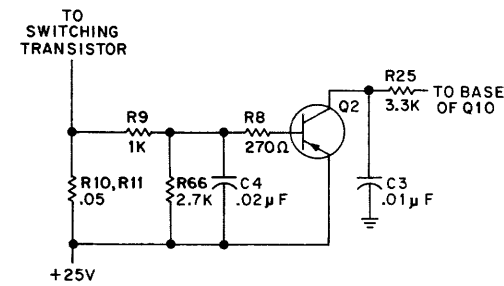

Figure 2-8 Overcurrent Protection Circuit
2.4.1.1 Overcurrent Protection – The overcurrent protection circuit schematic is shown in Figure 2-8. Transistor Q2 is usually not conducting because, under normal operating conditions, there is insufficient voltage developed across resistors R10 and R11 to forward-bias the transistor.